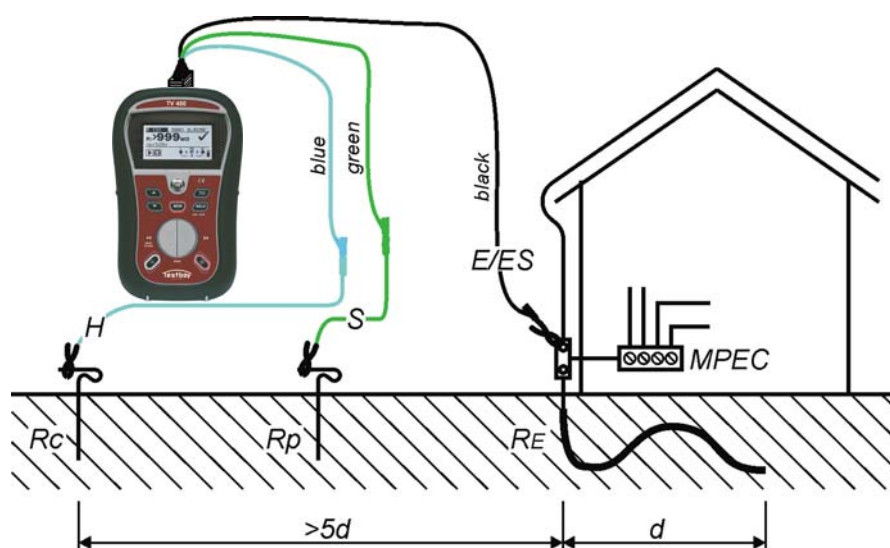

Figure 5.30: Resistance to earth, measurement of main installation earthing
- ❑ **Connect** the item to be tested (see figures 5.30, 5.31).